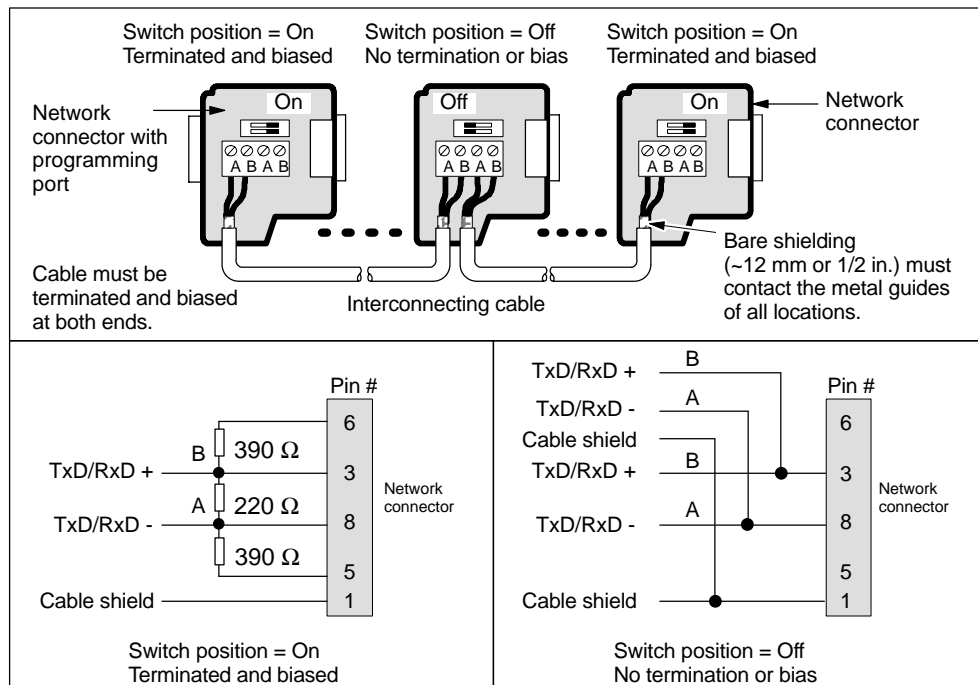

Figure 7-24 Bias and Termination of Interconnecting Cable
- If there are multiple CPUs connected to the remote modem, you will need a Siemens programming port connector on a PROFIBUS network (see Figure 7-24 for the bias and termination of interconnecting cables).
Siemens offers two types of networking connectors that you can use to connect multiple devices to a network easily. Both connectors have two sets of terminal screws to allow you to attach the incoming and outgoing network cables. Both connectors also have switches to bias and terminate the network selectively. One connector type provides only a connection to the CPU. The other adds a programming port (see Figure 7-24). See Appendix E for ordering information.